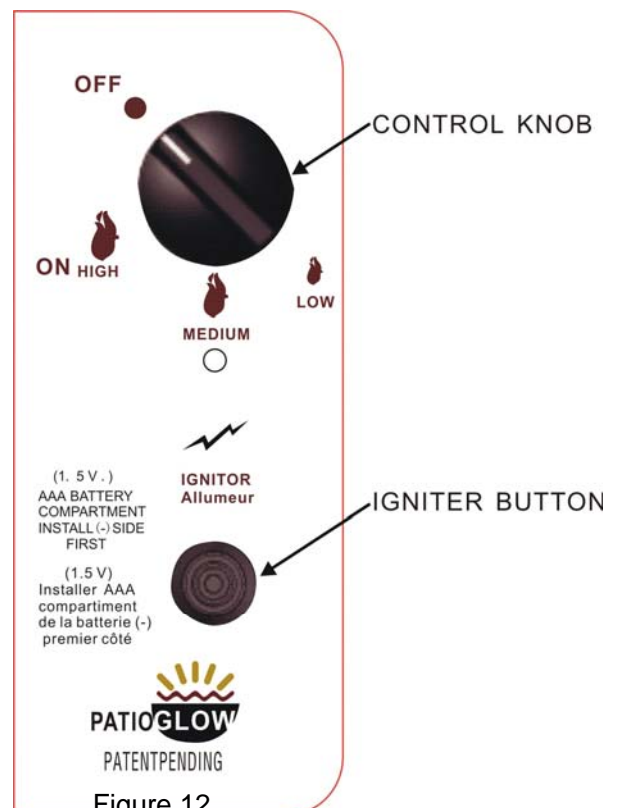

Figure 12
1. Open the tank drawer and find the control panel on the left. Make sure the control knob is in the "OFF" position. See Figure 12. Open the tank valve all the way.
2. Push in the igniter button. You will hear a slight clicking sound. With the igniter button pushed in, push and turn the control knob to the "ON" position. The fire should light within a few seconds. Once the flame is lit, release the igniter button and continue to hold the control knob in for 10 to 15 seconds. Release the control knob. The control knob should pop back out and the fire remain lit. Note: If the fire does not light, turn the knob to the "OFF" position and wait five (5) minutes before trying again.